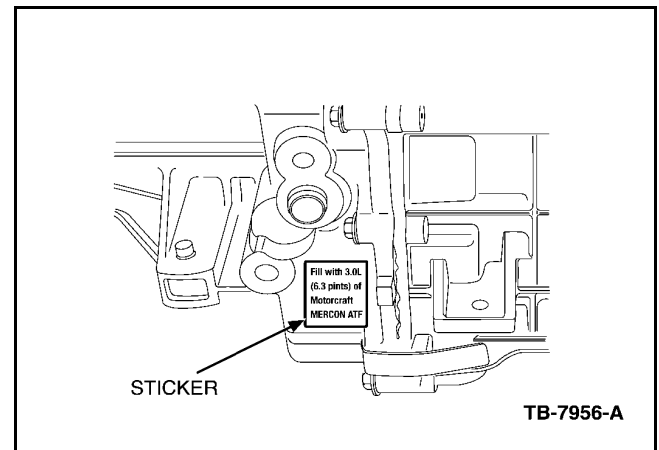

Figure 1 - Article 04-15-6
4. Clean oil from area 26 mm (1") below the transmission fill plug (Figure 1) and install the oil fill sticker included in the kit.